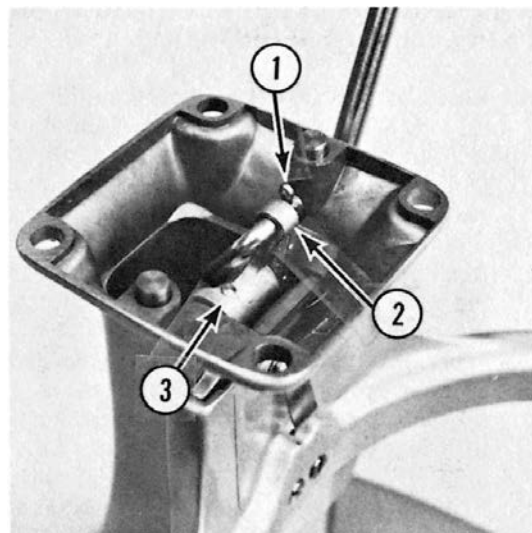

Fig. 5-9
- C. Remove the cotter pin (1, Fig. 5-9) and slide the bowl lift rod out of the bowl lift arm (2, Fig. 5-9).
- D. Turn the bowl lift handle so that the small end of the taper pin (3, Fig. 5-9) is in the UP position, then drive out the pin.